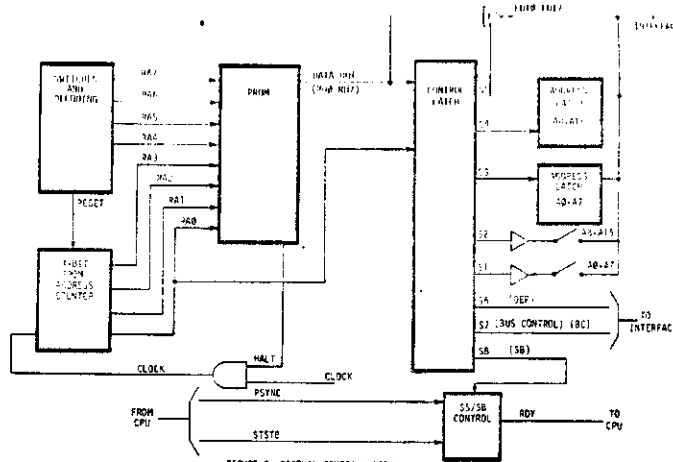

FIGURE 2. DISPLAY/CONTROL LOGIC BLOCK DIAGRAM
The general interrupt service routine is listed in Figures 2 and 3.
Figure 2 lists the memory locations to which the Vectored Interrupt (VI) board forces the CPU to execute. A typical routine (INT1), first pushes the B/C and D/E register pairs, and then calls the general interrupt service routine (LEVEL). Following the call are three bytes of parameters for LEVEL. First is the new level mask work for the VI board, then two bytes of the address of the specific interrupt handling subroutine for the level.
The block diagram, Figure 2, shows the Display/Control logic itself (from a functional block viewpoint).